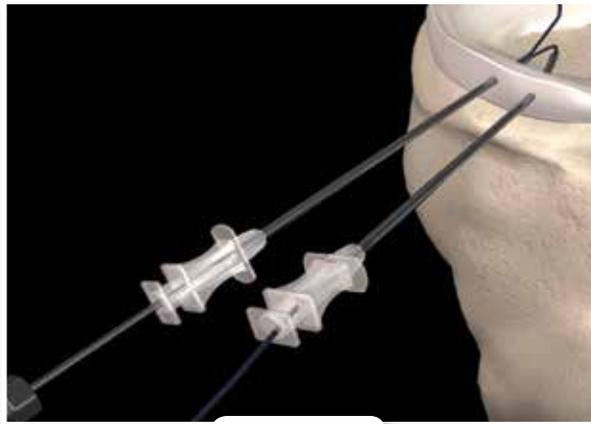

Figure 9
- Pull back on the loop, capturing the suture material (Figure 9).